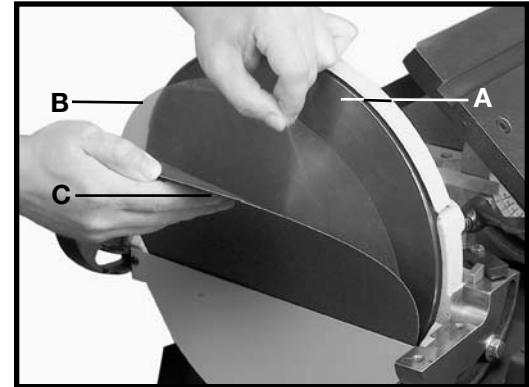

Fig. 9
1. Clean the sanding disc plate (A) Fig. 9 of any oil or grease, and be certain that it is dry.
2. Peel approximately 1/2 of the backing (B) Fig. 9 from the sanding disc (C).
3. Insert the sanding disc (C) with the paper backing downward between the disc assembly and the disc guard (Fig. 9).